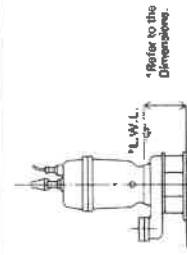

Fig. 2
- (6) Do not permit end of discharge piping to be submerged, as backflow will result when the pump is shut down.
- (7) Non-automatic pumps (model DVS) do not have an automatic operating system based on built-in floats. Always keep an eye on pump operating water level. Do not operate the pump for a long time with the water level near the minimum operating level as the automatic cut-off switch incorporated inside the motor will be activated. To avoid dry operation, install an automatic operating system, as shown in Fig. 2 and maintain a safe operating water level.